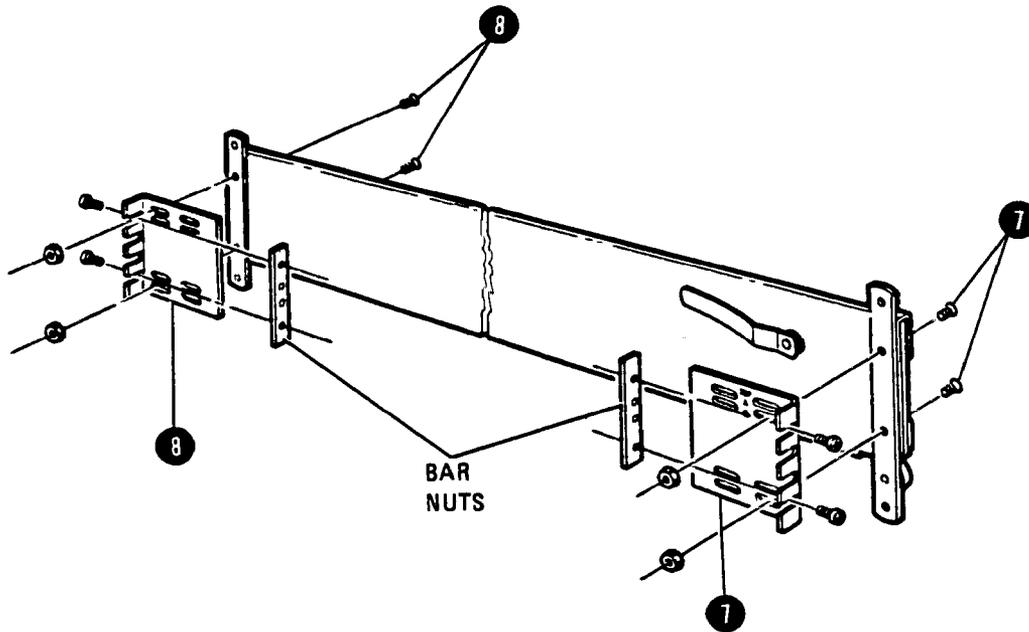

Figure 16. Installing End Brackets for Non-HP Cabinets
7. Attach end brackets for non-HP cabinets using hole pattern "B". Mount end brackets to the front of each outer slide mount using two M5x0.8x12 flat-head screws and nuts with washers per side. See Figure 16.
8. Mount end brackets to the rear of each outer slide mount using two M5x0.8x12 pan-head screws and nuts with washers per side. See Figure 16.